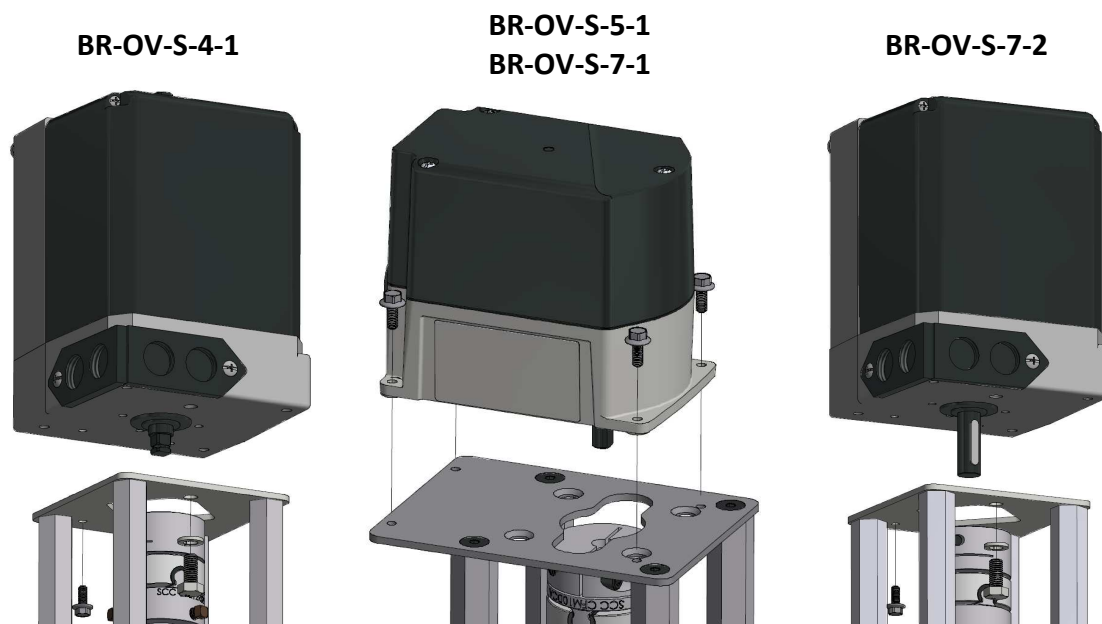

Figure 8: Actuator Installation
- BR-OV-S-4-1 / BR-OV-S-7-2:** Place the SQM5... actuator on top of the actuator mounting bracket. Slide the M8 split lock washer over the M8 x 18mm hex head cap screw. Slide the M8 screw through the appropriate hole in the actuator mounting bracket and thread it into the bottom of the actuator. Tighten this screw using the 13mm wrench. Then, using the 8mm wrench and the (2) M5 x 12mm thread-forming screws, finish securing the actuator to the actuator mounting bracket as shown below in Figure 8.
BR-OV-S-5-1 / BR-OV-S-7-1: Place the SQM... actuator on top of the actuator mounting bracket. Using the 8mm socket with 6" ratchet extension and the (4) M5 x 12mm thread-forming screws, fasten the actuator to the actuator mounting bracket as shown below in Figure 8. Take care to start the thread-forming screws as straight as possible.